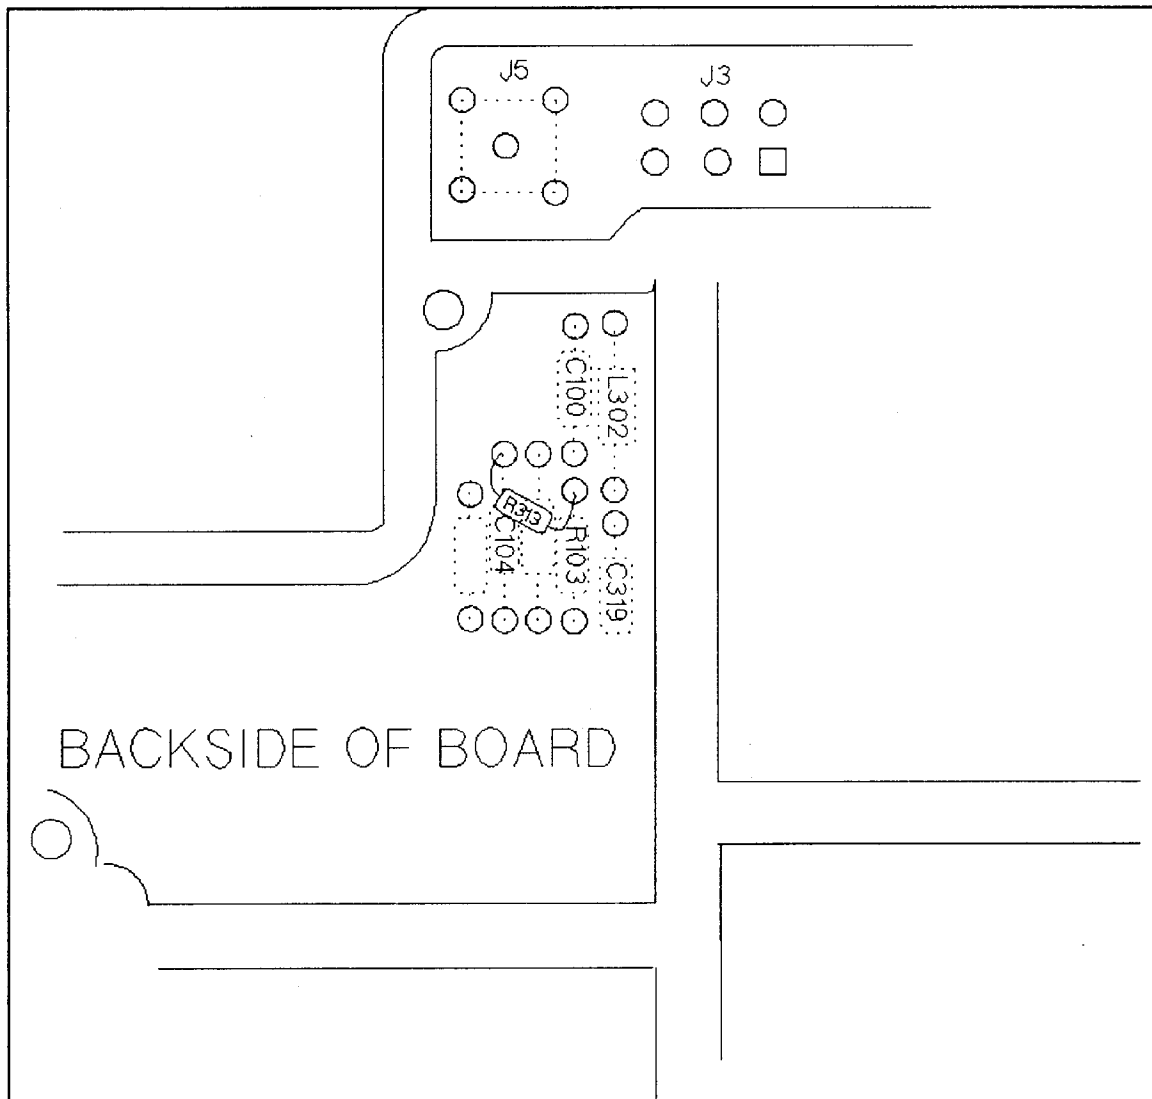

Figure 1. A25 Counter-Lock Assembly
3. Refer to Figure 1. for the location of R103 and remove R103. Install C321 in place of R103 but do not solder at this time. Install R313 as shown in Figure 1. One lead will share a hole with C321 (just installed). The other lead will share a hole with C104 as shown.